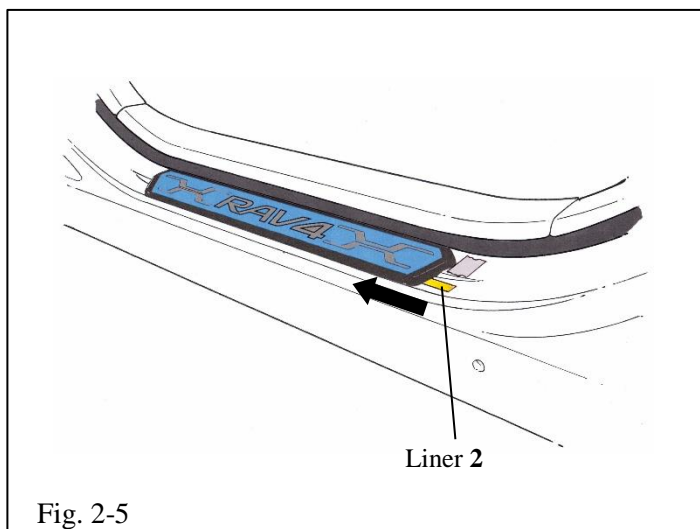

Fig. 2-5
- h. While holding protector in position pull tape liner 2 in direction of arrow and remove tape liner. (Fig.2-5)